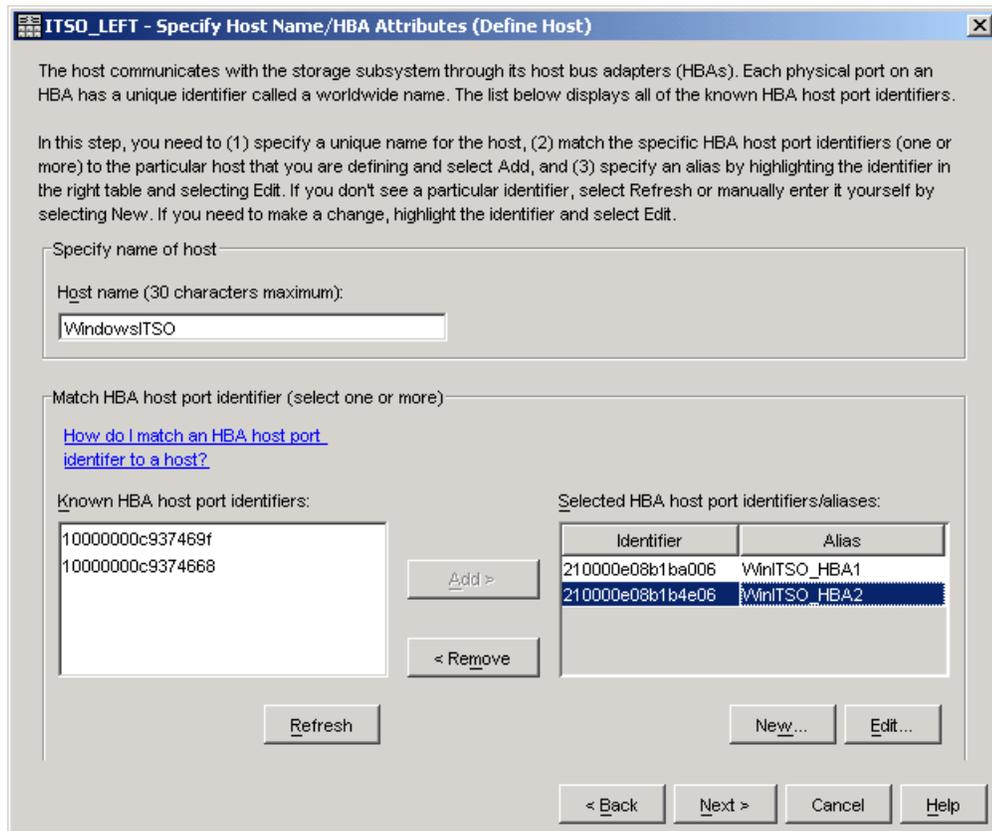

Figure 5-61 Define host: Specifying the host name and HBA attributes
5. The next window allows you to specify the host name and the HBA host port information (host port identifier and alias). Remember that the HBA host port identifier is the world-wide port name of the particular HBA. Figure 5-61 shows our example. Our host name is WindowsITSO and we have defined two HBA host ports. If you must enter a host port name that is not currently active, type the world-wide port name directly in the field.